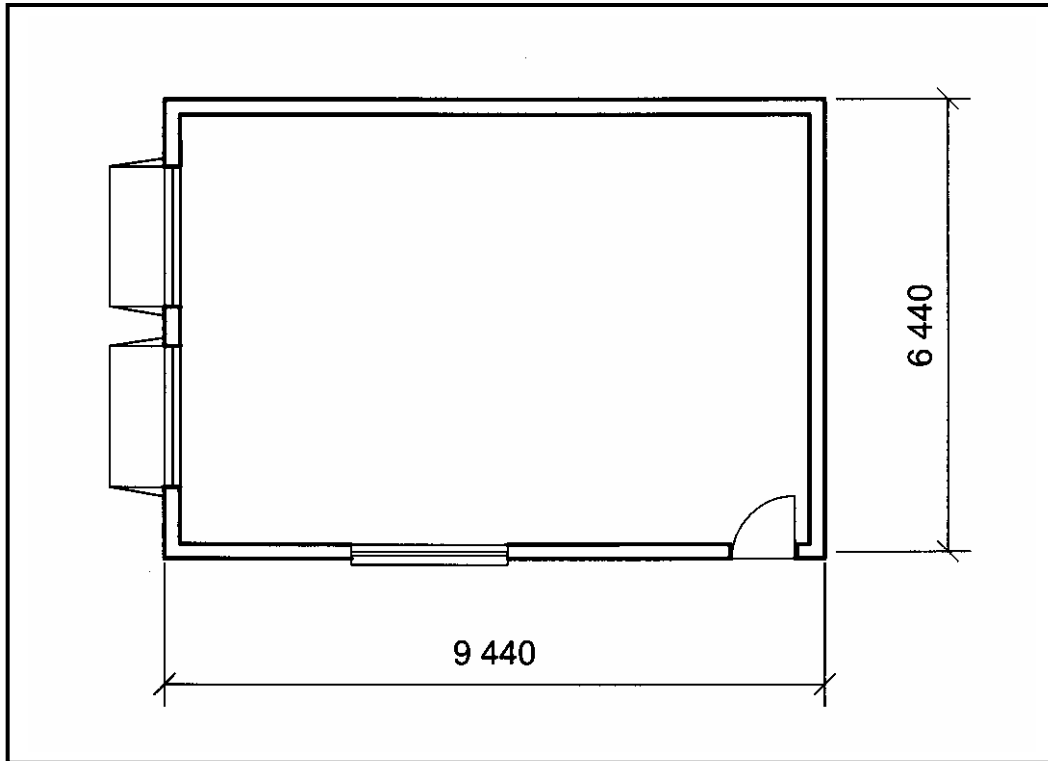

FIGURE 4.1
4.1 FIGURE 4.1 below shows the floor plan of a double garage. The walls are 220 mm thick. Use ANSWER SHEET 4.1 to answer the questions that follow.